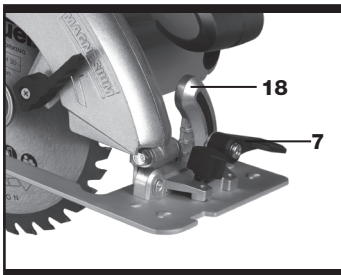

Fig. 5
Loosen the base plate bevel lock button (7) and rotate the base plate (3) to set the bevel angle which shown on the bevel scale (18). Then clamp the base plate (3) by using the lock (7) (See Fig. 5). Finally, check the angle and ensure the base plate is firmly clamped. The angle markings (18) on the scale are accurate for most general purposes but it is recommended for accurate work to set the angle with a protractor and make a test cut on other material. Do not adjust the working depth when making bevel cuts due to possible inaccuracy.